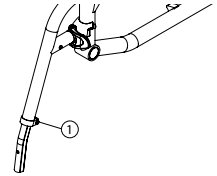

Fig. 24
- Loosen screw (1) (Fig. 24).
- Tighten screw (1) firmly.